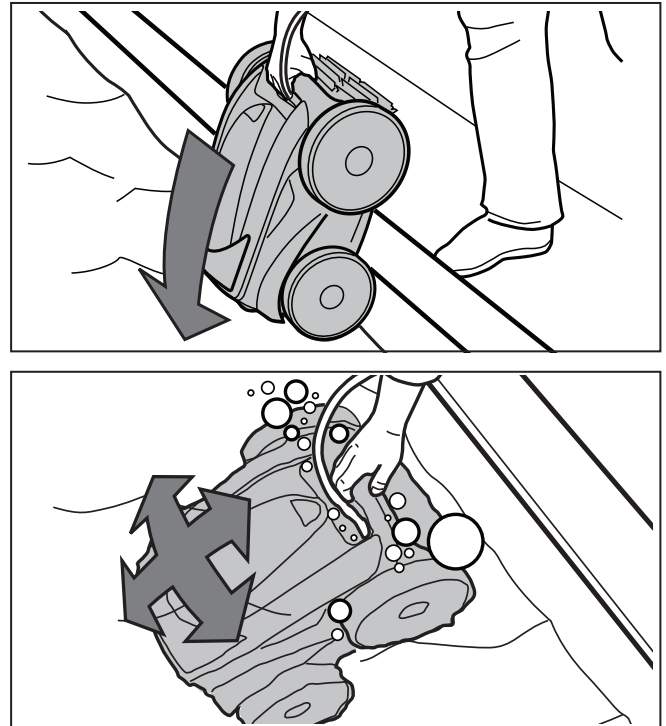

Figure 12. Submerge and Remove Trapped Air
1. Submerge cleaner vertically (1) and hold it under the surface, moving gently from side to side (2) until the bubbles stop to remove air trapped inside (Figure 12).